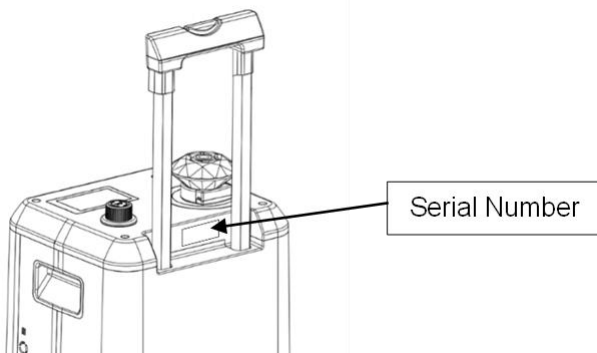

Figure 2.3
- Find your serial number (SN) on your machine shown in Figure 2.3.